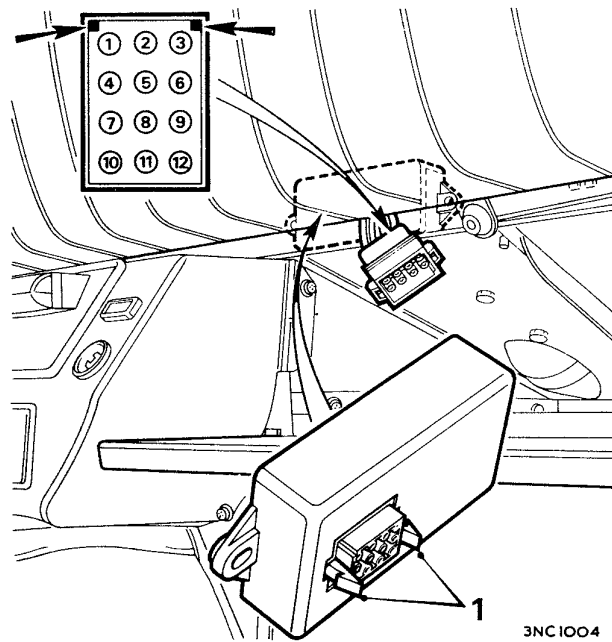

Fig. Nb.11
6. Compress the two retaining tags (see Fig. Nb.11) on the seat belt system control unit and disconnect the wiring plug from the control unit.
Referring to Figs. Nb.11 and Nb.12 for circuit diagram and wiring harness plug pin identification numbers, carry out the following test procedure using a 12-volt 2.2-watt test lamp and a length of insulated cable.